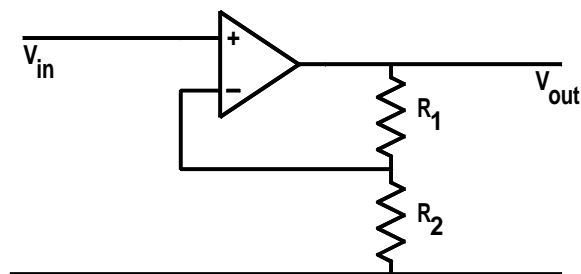

Figure 41.4: Example 41.1.
41.1 Analyze the noninverting amplifier shown in Figure 41.4 in terms of a negative feedback system.